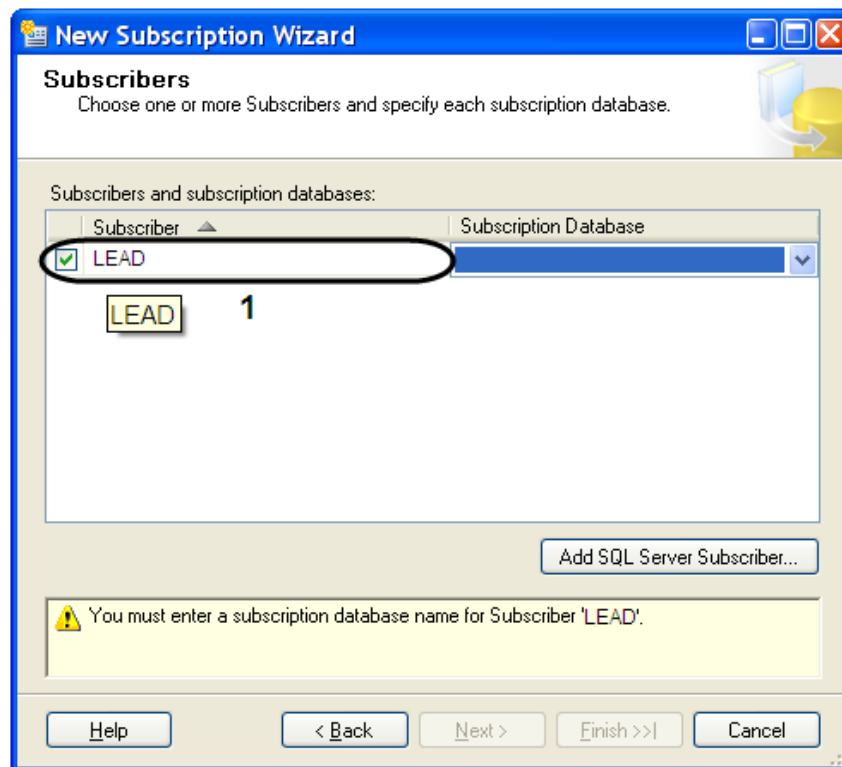

Fig. 9.3—15 Subscriber selection
12. Select the subscription database from the «Subscription Database» dropdown list (Fig. 9.3—16, 1).